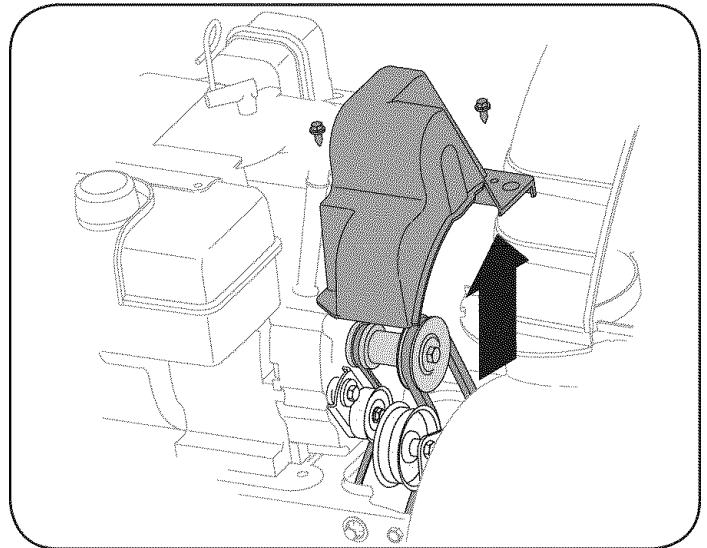

Figure 21
2. Remove the plastic belt cover on the front of the engine by removing the two self-tapping screws. See Figure 21.
2. Remove the plastic belt cover on the front of the engine by removing the two self-tapping screws. See Figure 21 on previous page.